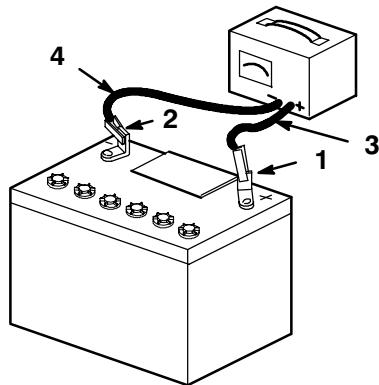

Figure 2
8. When the battery is fully charged, unplug the charger from the electrical outlet, then disconnect the charger leads from the battery posts (Fig. 2).